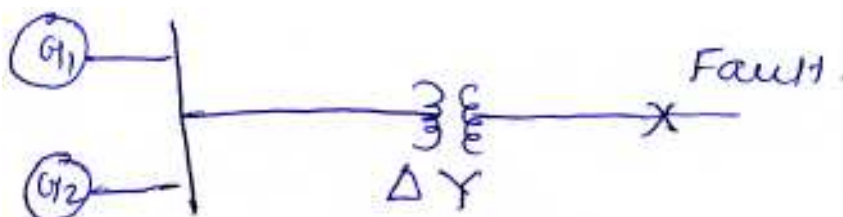

Fig. 4 (b).
- Before fault occurs voltage on H.T. side of transformer is 138 KV. The transformer is loaded and there is no circulation current between the alternators. Find subtransient current in each alternator, when a three phase short circuit occurs on H.T. side of transformer. Select a base of 70,000 KVA, 138 KV in H.T. circuit. Fig. 4 (b). 8